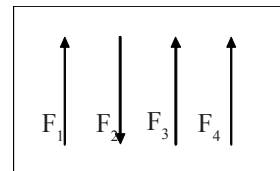

Fig.2.8
-labeled to each other and do not act in the same direction are called as coplanar non-concurrent unlike forces.(Fig.2.8)